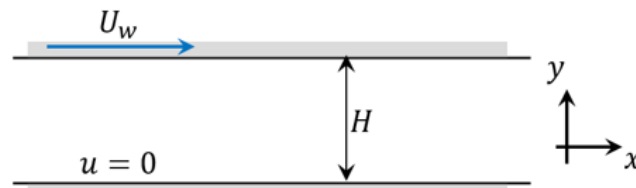

Figure Q8: Sketch of the flow configuration for Q8.
- the fluid flows between two horizontal, parallel, infinitely extended walls, with the bottom wall being stationary and the top wall translating with speed  $U_w$  in the positive  $x$  direction, see the Figure Q8 below;